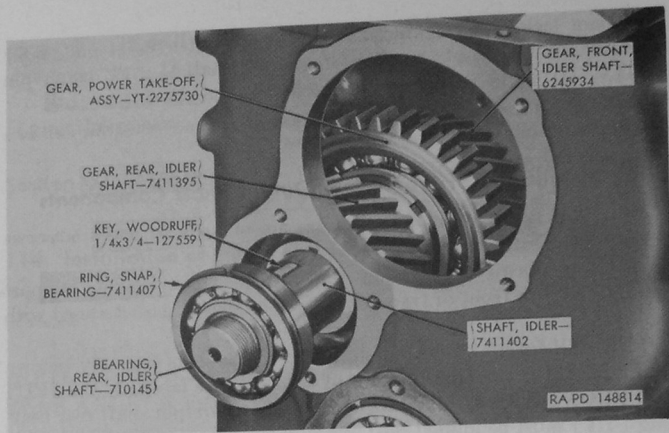

Figure 81. Installing idler shaft and gears.
b. Insert front end of idler shaft assembly through opening at rear of transfer case and through idler shaft rear gear (V), idler shaft clutch gear (BC), and idler shaft front gear (BA). Aline  $\frac{1}{4}$  x  $\frac{3}{4}$  Woodruff key (Z) in idler shaft with keyway in rear gear as idler shaft (fig. 81) is moved forward. Use lead hammer to drive on rear end of idler shaft to force idler shaft into place with bearing snap ring (EE) against rear face of transfer case.